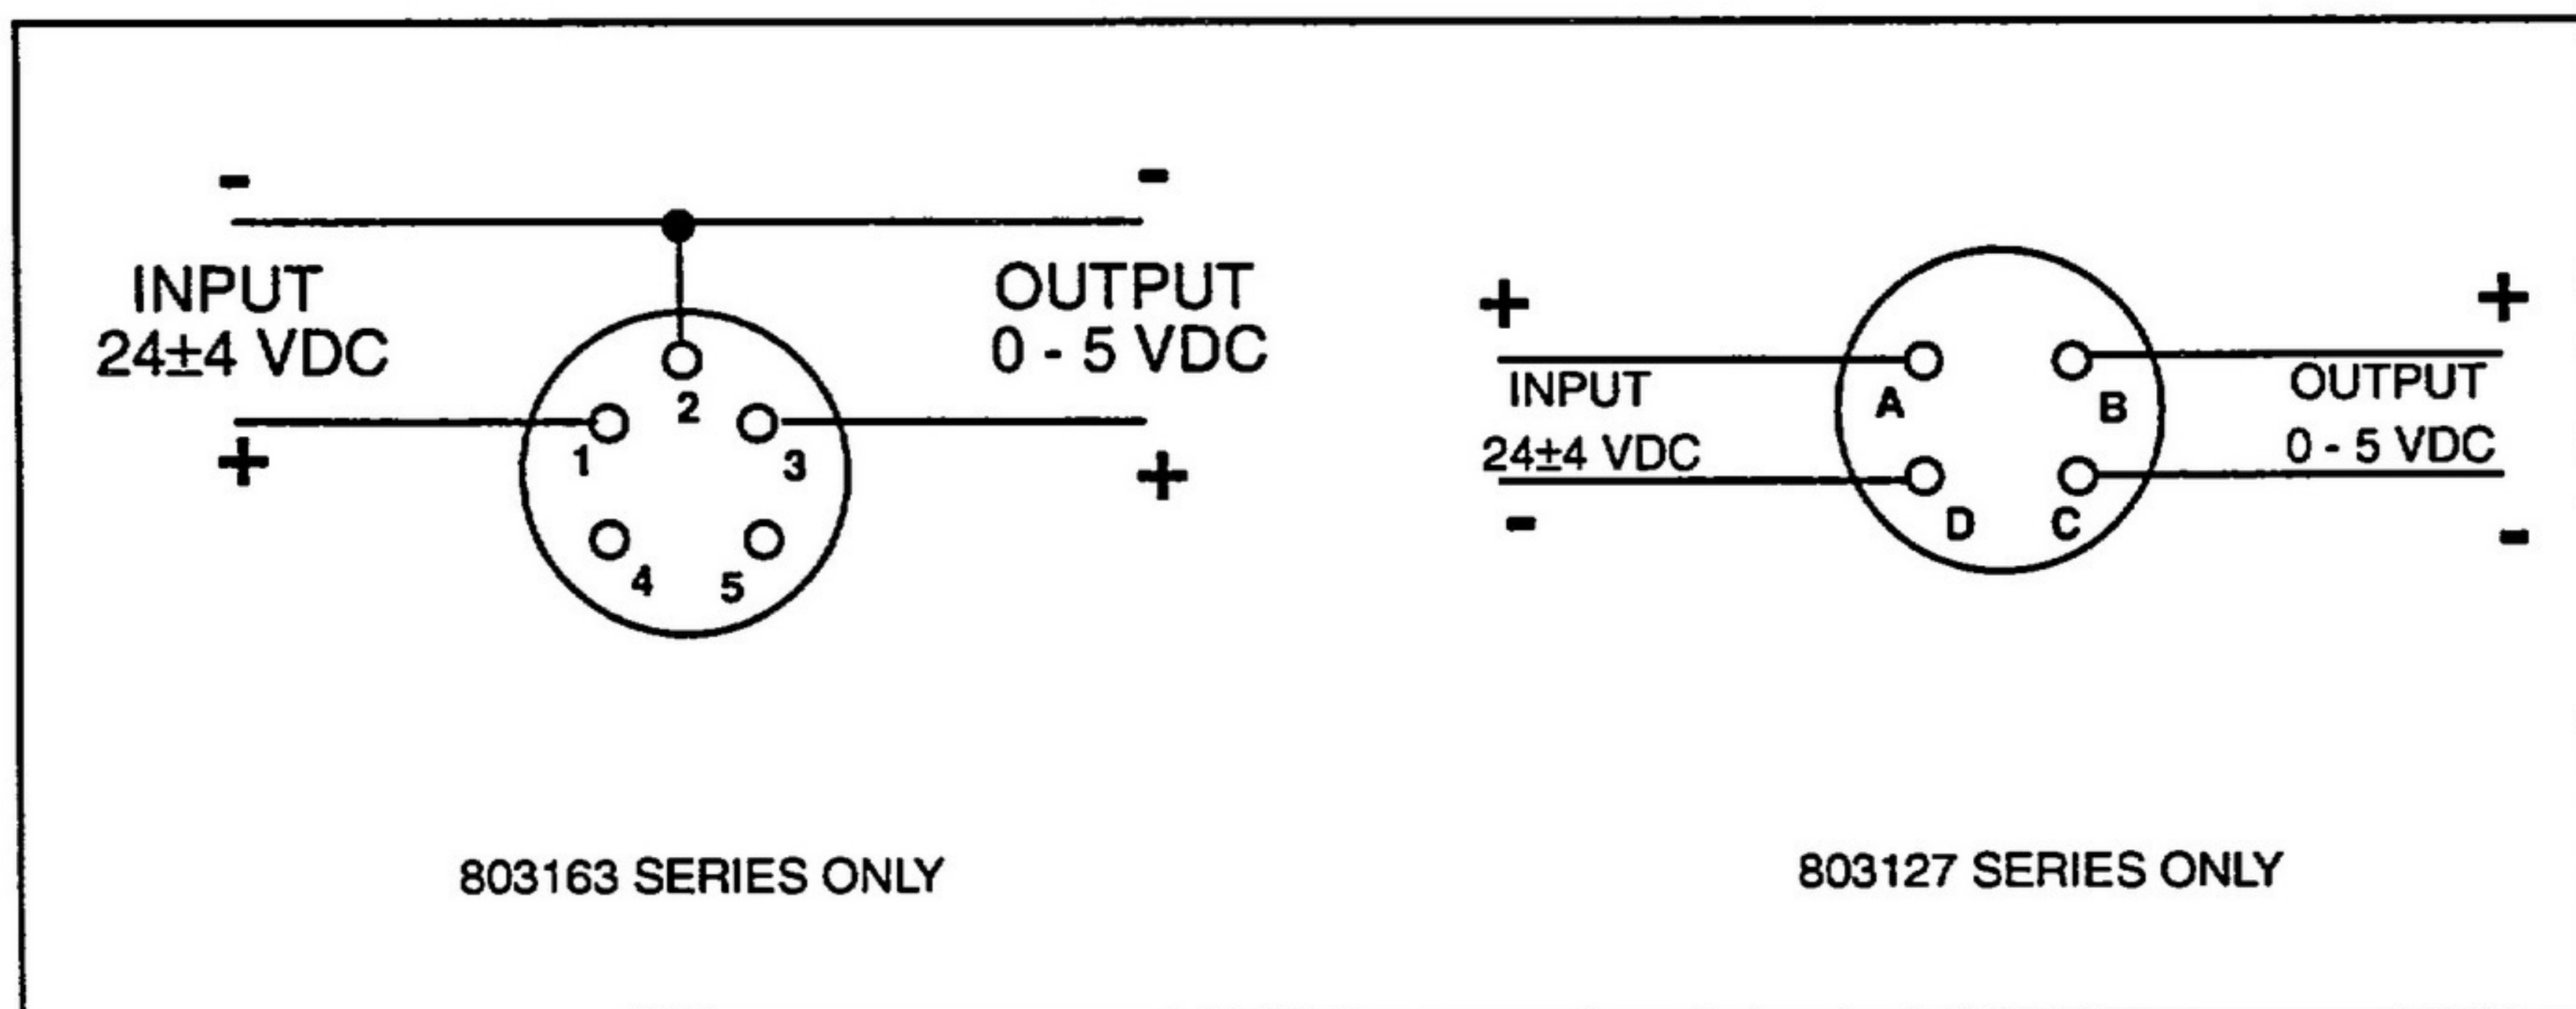

Figure 102 Transducer Connections - Output Voltage
- (3) Connect the 24±4 VDC power supply and test probes of the test meter to the appropriate terminal pins of the transducer assembly. See Figure 102 for connection points.